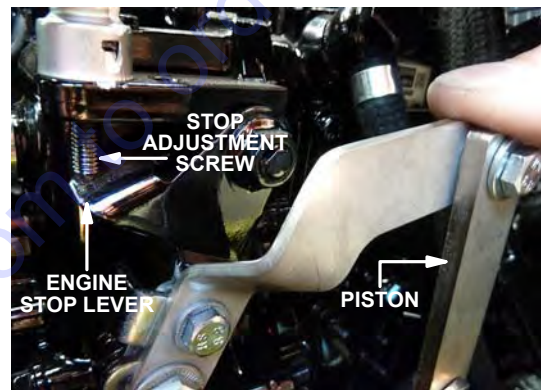

Figure 7. Push Down on Piston
- Push the speed solenoid piston all the way down by hand (Figure 7).